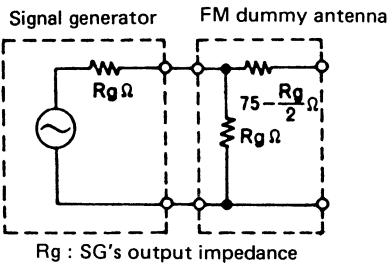

Fig. 7
3. FM dummy antenna shows Figure 7.